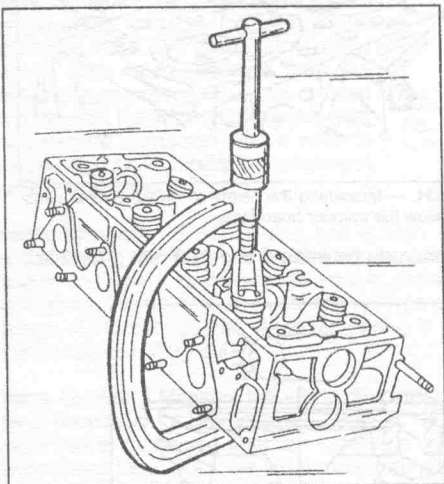
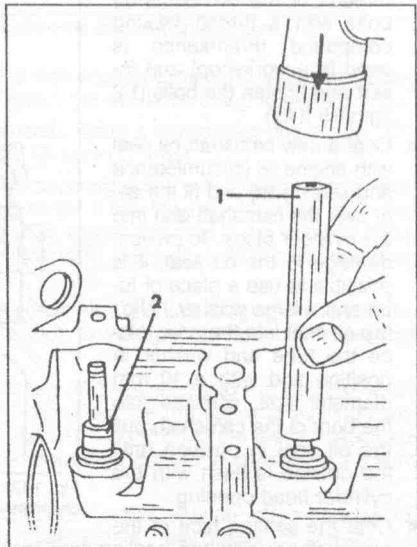

Fig. 1.33. — Removal of the valve springs and valve with a valve spring compressor.
Fig. 1.40. — Fitting a valve stem oil seal (2) with a suitable tube (1). — *Danger of damage.*
- A valve lifter is needed to remove the valves from the cylinder head (Fig. 1.33). Valve lifters are now available from most tool hire companies and there should be no problem obtaining one. It is also possible to remove the valves by placing a piece of wood into the combustion chamber, to support the valve head, and then to proceed as follows:
- Assemble the valves. First place the valve spring seat over the cylinder head and push the valve stem seals over the valve stems and valve guides, as shown in Fig.1.40. Fit the valve springs and the upper valve spring cup to the valve spring and compress the spring with a valve spring compressor, as shown in Fig. 1.33. When the valve stem end protrudes from the valve spring cup, insert the two valve cotter halves with a pair of pointed pliers. Slowly release the valve spring compressor, checking continuously that the cotter halves are kept in position.